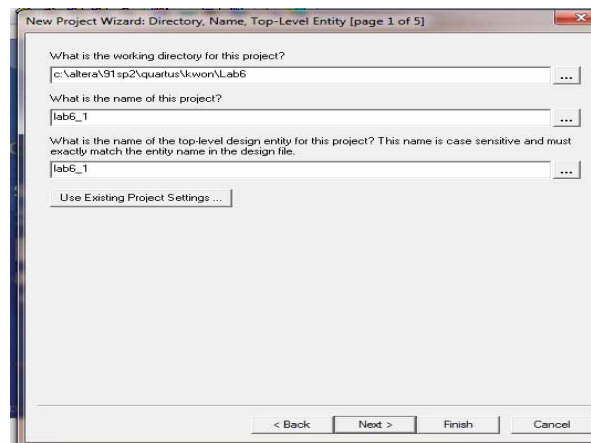

Figure 6-4
3. Page 1 of 5 of the New Project Wizard appears (See Figure 6-4). Enter the Working directory, project name and name of your top-level entity of your project. Examples shown in this lab manual will show drive C. Enter the appropriate drive letter for your designated storage area on the computer you are using or select the directory with **Browse (...)** followed by the working directory C:\altera\91sp2\quartus\kwon\Lab6. (I recommend that you create a subfolder of your last name such as 'kwon' as shown above so that you always keep and save your files under your subfolder) Enter **lab6\_1** as the project name and as the